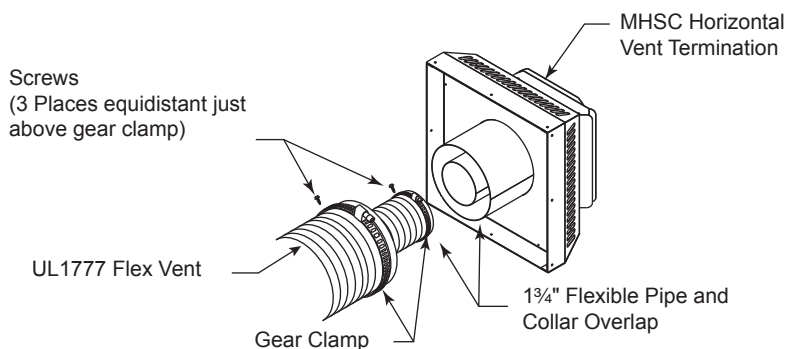

Figure 28 - Typical Horizontal Flex Vent Installation
1. Connect the 5" flexible vent to the horizontal termination as in *Figure 28*.
2. Connect the 8" flexible vent to the termination ring as in *Figure 28*.
3. Review *Figure 28* for proper overlap and clamp placement.
5. Use only listed and approved terminations and accessories, installed per the termination instructions and *Figure 28*.